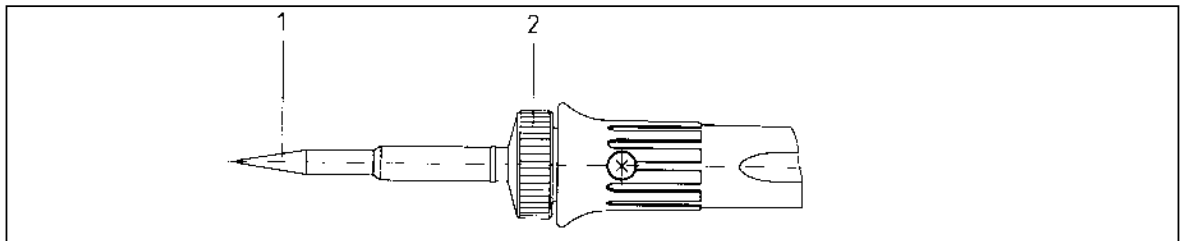

Figure 6
- Loosen the soldering tip (pos. 1/fig. 6) by turning the knurled nut (pos. 2/fig. 6) counter-clockwise.